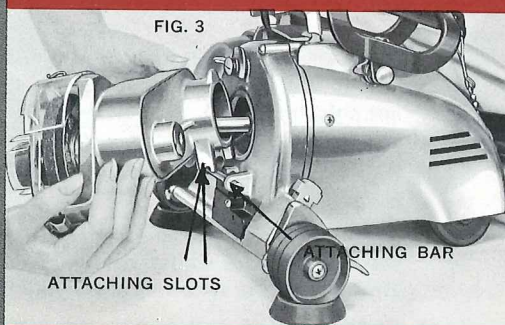

FIG. 3
STEP 3. Raise the floodlight hood. Hold the Handi-Butler so the attaching slot is on the attaching bar which is just below the belt drive shaft or motor pulley. (Figure 3). The belt drive shaft should enter
STEP 5: Turn the belt lifter lever to the "ON" position and the unit is ready for operation. Rubber cups, which are provided, should be placed under the front wheels to steady the unit (figure 3). When using the grinding wheel, look through the eye shield part of the transparent grinding wheel cover to help protect your eyes. Safety glasses are recommended when using the wire brush or grinding wheel.